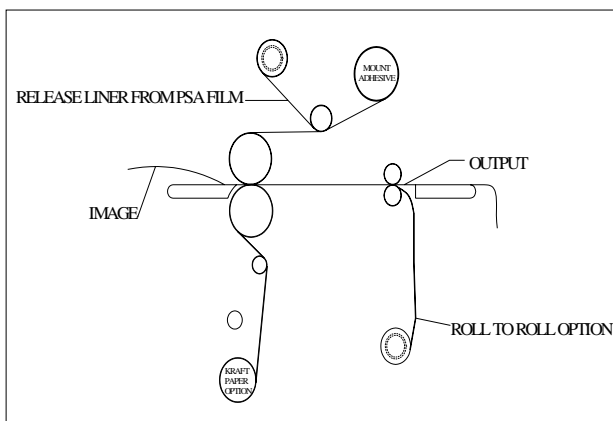

Figure 32
1. Load the laminator as illustrated in Fig. 32.